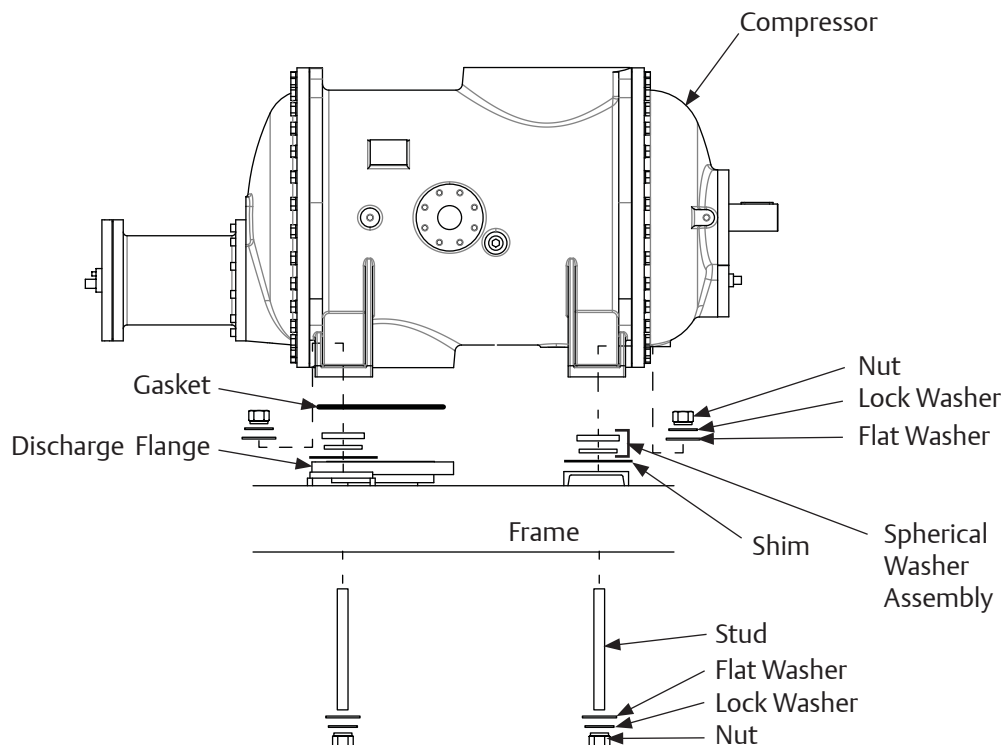

Figure 5-12. Compressor Replacement and Hardware Assembly (Model 3700 Shown)
11. Remove nuts, flat washers, lock washers and studs securing compressor to frame, see Figure 5-12.